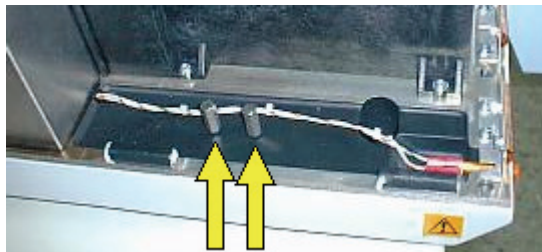

Figure 10 Storing the bolts
9. Store the two hexagonal clamps in their fixing points on the left side of the instrument, as shown in Figure 10.